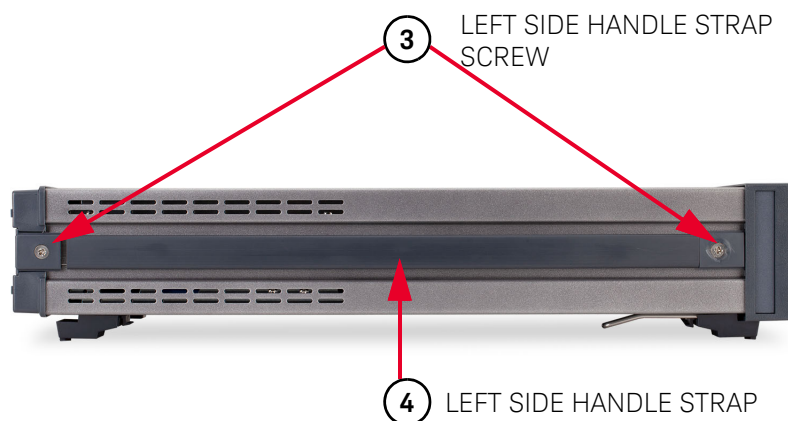

Figure 3-2 Remove/Install left side handle
- 5** Refer to **Figure 3-2**. Turn the instrument so its left side faces you.
- 17 Refer to Figure 3-2. Reinstall the left side handle strap. Use the #1 Pozidriv to reinstall the side handle strap screws.